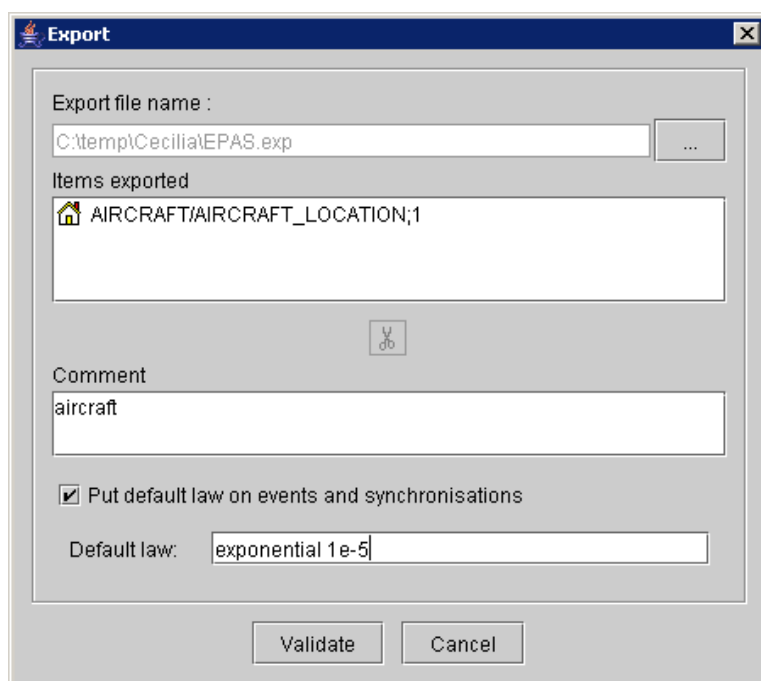

Figure 185 : XML export setup
- ◆ Activate the export setup window (Figure 185) with the **Export** command in **File** menu.